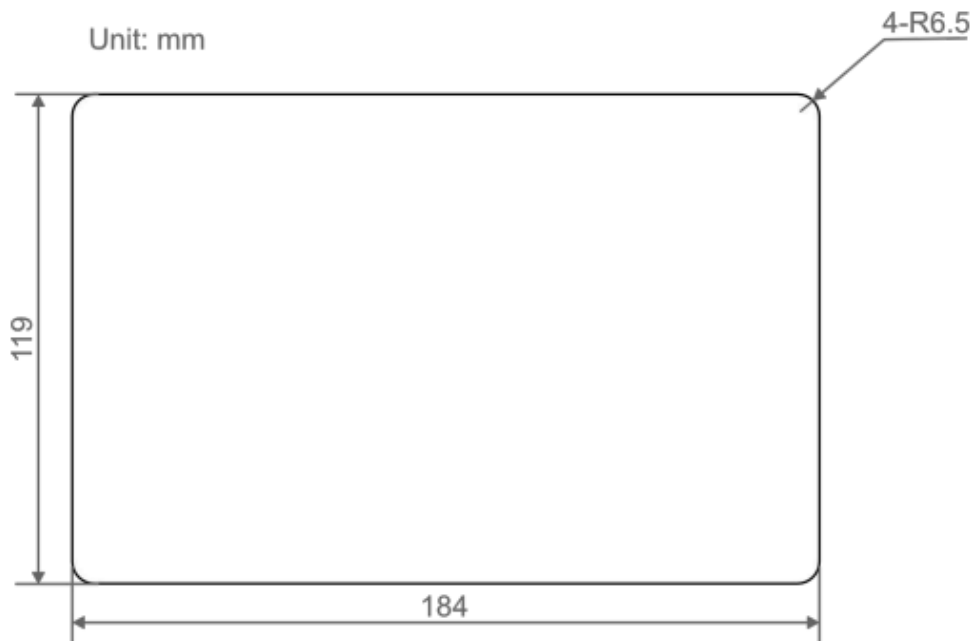

Figure 2: Cabinet hole size
1. The opening size of the cabinet required to fit this HMI is shown in figure 2 below: